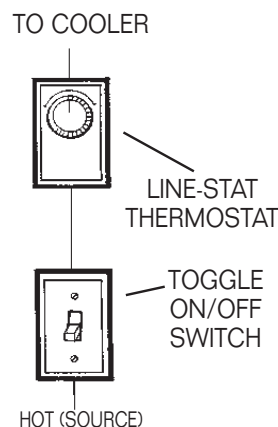
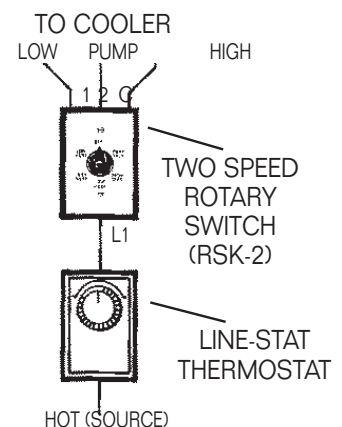

FIGURE 2
FIGURE 3
5. Connect wiring to LINE-STAT thermostat and manual switch as shown in Figure 2 or Figure 3.